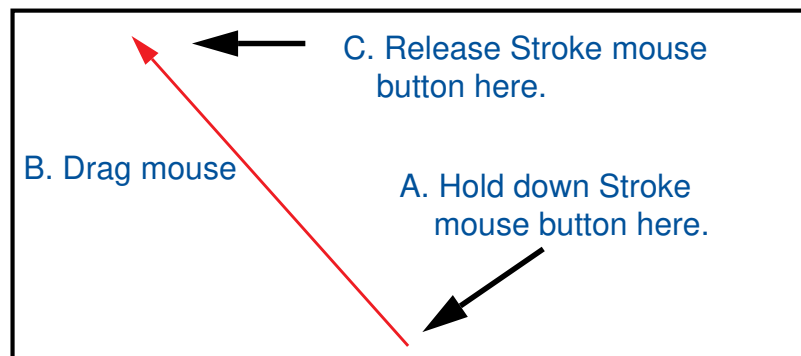

Figure 1-33. View All Stroke (9-5-1)
1. View all of the design using the View All stroke shown in Figure 1-33.